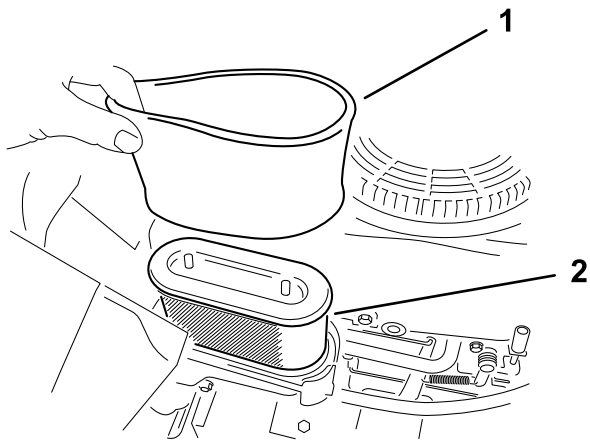

Figure 30
5. Carefully remove the foam and paper filter elements from the air-cleaner housing (Figure 30).
1. Install the foam filter onto the paper filter (Figure 30).
Note: If it is very dirty, replace the paper element (Figure 30).